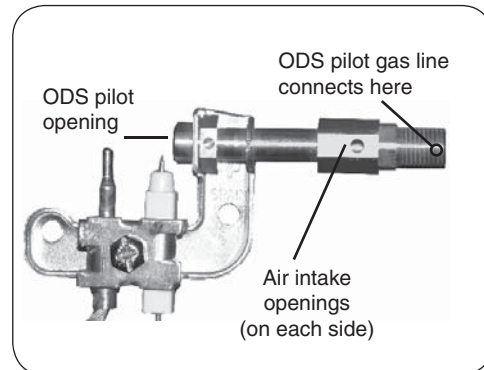

Fig. 19-1
1. Turn the burner system to the **OFF** position and allow it to cool. Inspect the ODS pilot area (see Fig. 19-1) for any visual contamination or debris (usually lint, hair, spider webs, or small insects). Lightly brush off all external surfaces while vacuuming loosened debris from the ODS pilot opening. **Be careful not to brush any foreign material into the ODS pilot opening.**
2. Clean out the air intake openings (see Fig. 19-1) by lightly brushing around the openings while vacuuming.
4. If the ODS pilot flame does not burn as indicated in the instructions, extinguish the ODS pilot by turning the valve to the full **OFF** position. Using a compressed air duster, insert the flexible nozzle through the air intake openings, ensuring that the nozzle is pointed toward the ODS pilot opening (see Fig. 19-1). Blow air through the intake openings to clear out any debris that may be in the system.
5. Relight the ODS pilot and inspect it to be sure it is burning as shown in the instructions. If not, extinguish the ODS pilot and **turn off the gas supply to the burner system.** Using an adjustable or a 1/4" wrench, disconnect the ODS pilot gas line (see Fig. 19-1) from the valve.